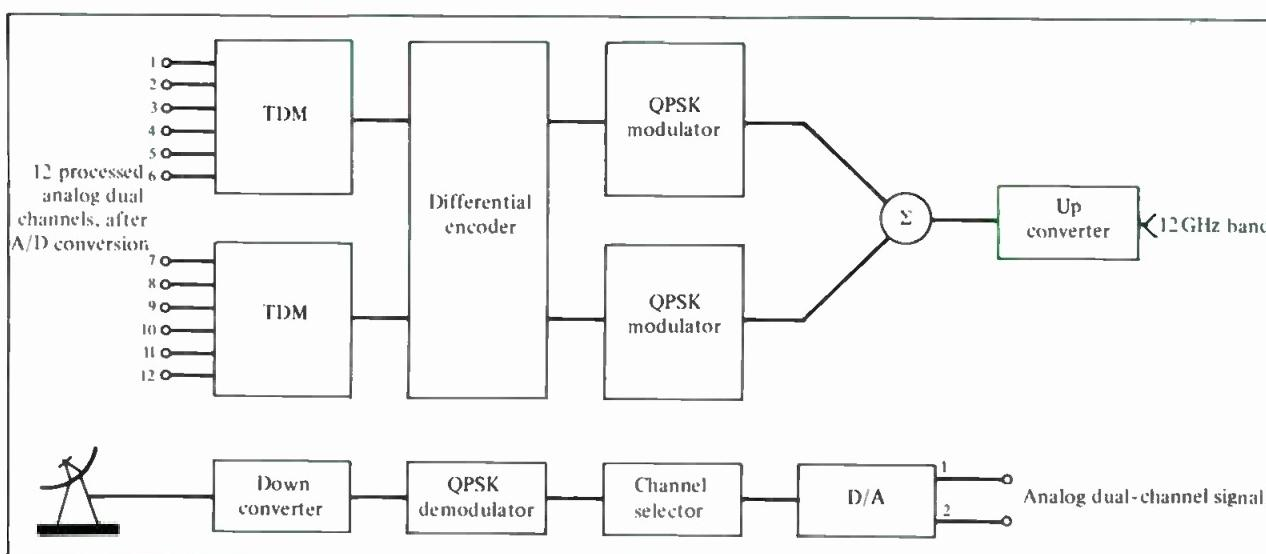

Figure 7. A block diagram of the SONY system.
FIGURE 7 shows a block diagram of the Sony system. Similar to the three systems described above, the Sony system uses the PCM format with a 32 kHz sampling rate and 14-bit quantization per sample; the similarity ends there. 15 additional bits are added to the original 28 bits (14 + 14 for dual channel) for error correction, two bits for housekeeping or service (SB) and 3 bits are added for synchronization. Therefore, the total digital word for one dual channel is 48 bits ($14 + 14 + 15 + 2 + 3$), which brings the total data stream rate of one dual channel to 1.536 Mbit/sec. For a 12 channel system, this becomes 18.432 Mbit/sec.
As can be seen from FIGURE 7, twelve dual channels are multiplexed by Time Division Multiplexing (TDM). This